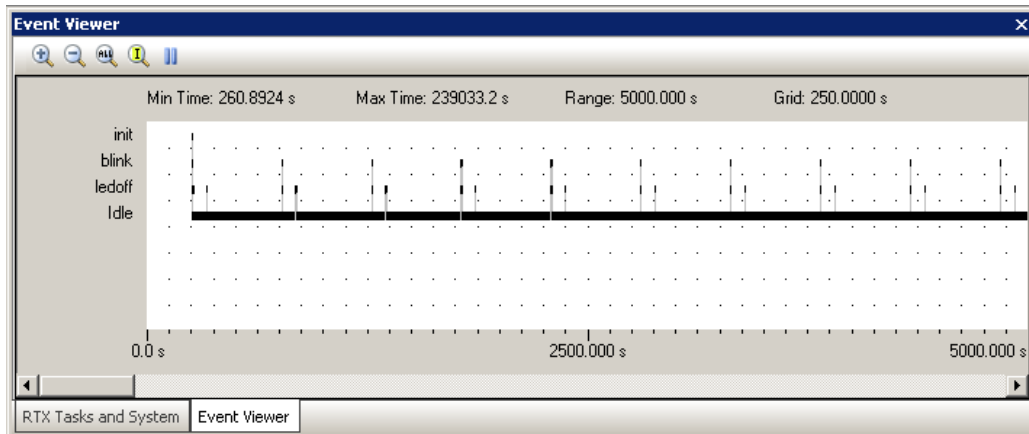

Figure 28: RTX Viewer: Event Viewer window.
2. Open Debug/OS Support and select Event Viewer and the window in Figure 28 opens up.